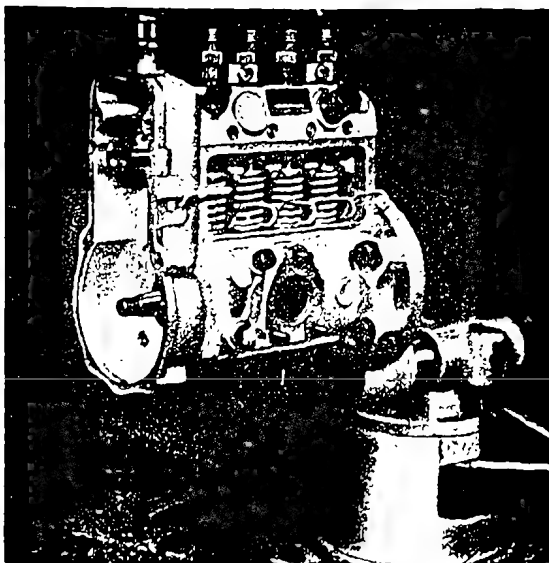

Fig. 10 Lifting the roller tappets
2.2. 5. If governor housing (8) is to be removed, the roller tappets of the injection pump together with tappet holders EFEP 311 (formerly EF 8183) (for pumps of size A), EFEP 312 (formerly EF 8034 A) (for size B) or EFEP 205 (for "high-speed" pumps of Size A) (Fig. 10) must first be lifted clear of the camshaft so as to relieve the latter.